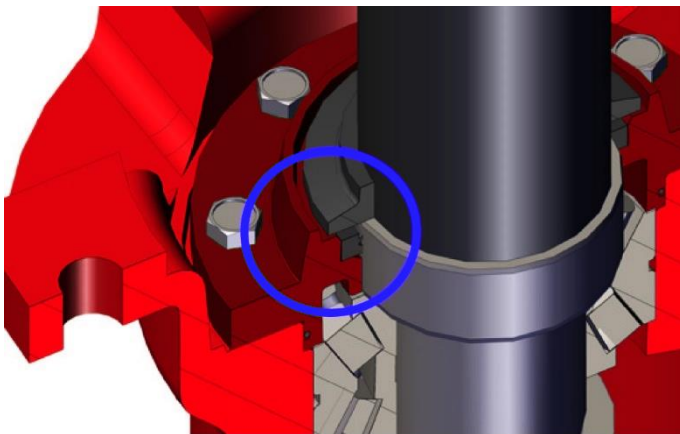

Figure 8. Rubber Lined Shaft with Flinger, Wet End Bearing and End Cover.
6. Install FLINGER (036) on shaft - this procedure varies as follows:
Slide FLINGER (36) along the shaft until the large diameter on the flinger fits into the recess in the lower end cover as shown in Figure 8.